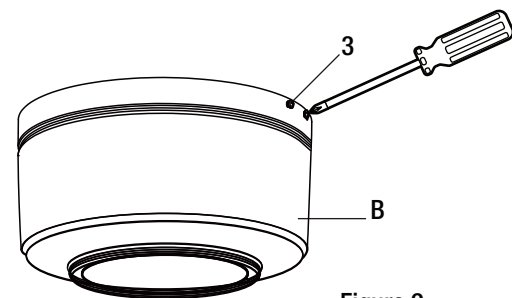

Figure 9
- Fix the motor housing (B) onto the supporting bar (A) by tightening the four screws (3) preassembled to the motor housing (B) (Figure 9).